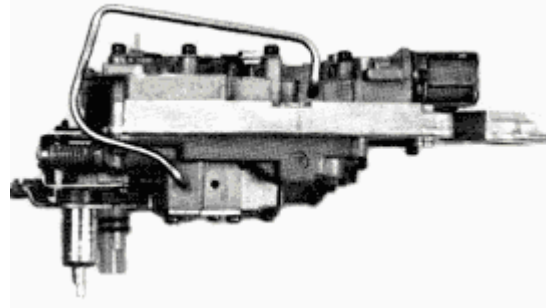

Figure 12
**Step 14** If you do not have a boost valve tube proceed to Step 16. Lubricate tube ends with transmission fluid. Position tube behind tube brace. **(See Figure 12)** Start the tube in the lower housing port first, and then swing it downward and work the opposite end of the tube into the upper housing port. Seat both ends of the tube once they are in position. The tube brace may be bent slightly to ease the installation and then resecured.